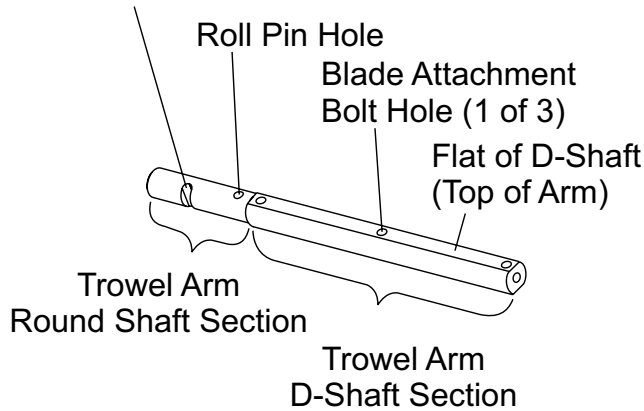
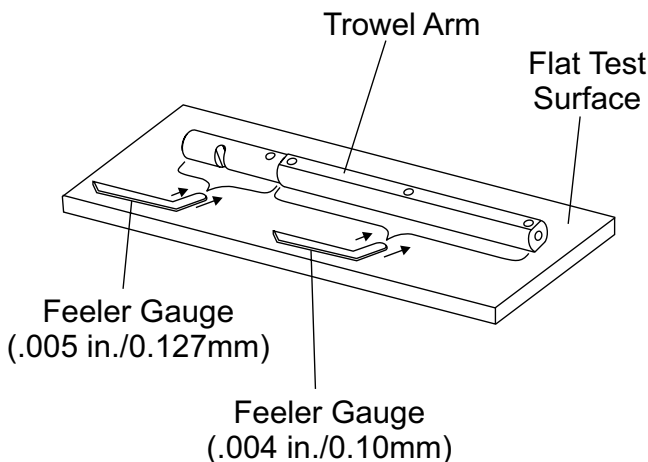

Figure 42. Trowel Arm
Figure 43. Checking Trowel Arm Flatness
Trowel arms can be damaged by rough handling, (such as dropping the trowel on the pad), or by striking exposed plumbing, forms, or rebar while in operation. A bent trowel arm will not allow the trowel to operate in a smooth fluid rotation. If bent trowel arms are suspect, check for flatness as follows, refer to Figure 42 and Figure 43:
2. Check each of the six sides of the trowel arm (hex section). A feeler gauge of .004" (0.10 mm) should not pass between the flat of the trowel arm and the test surface along its length on the test surface. (Figure 43) .